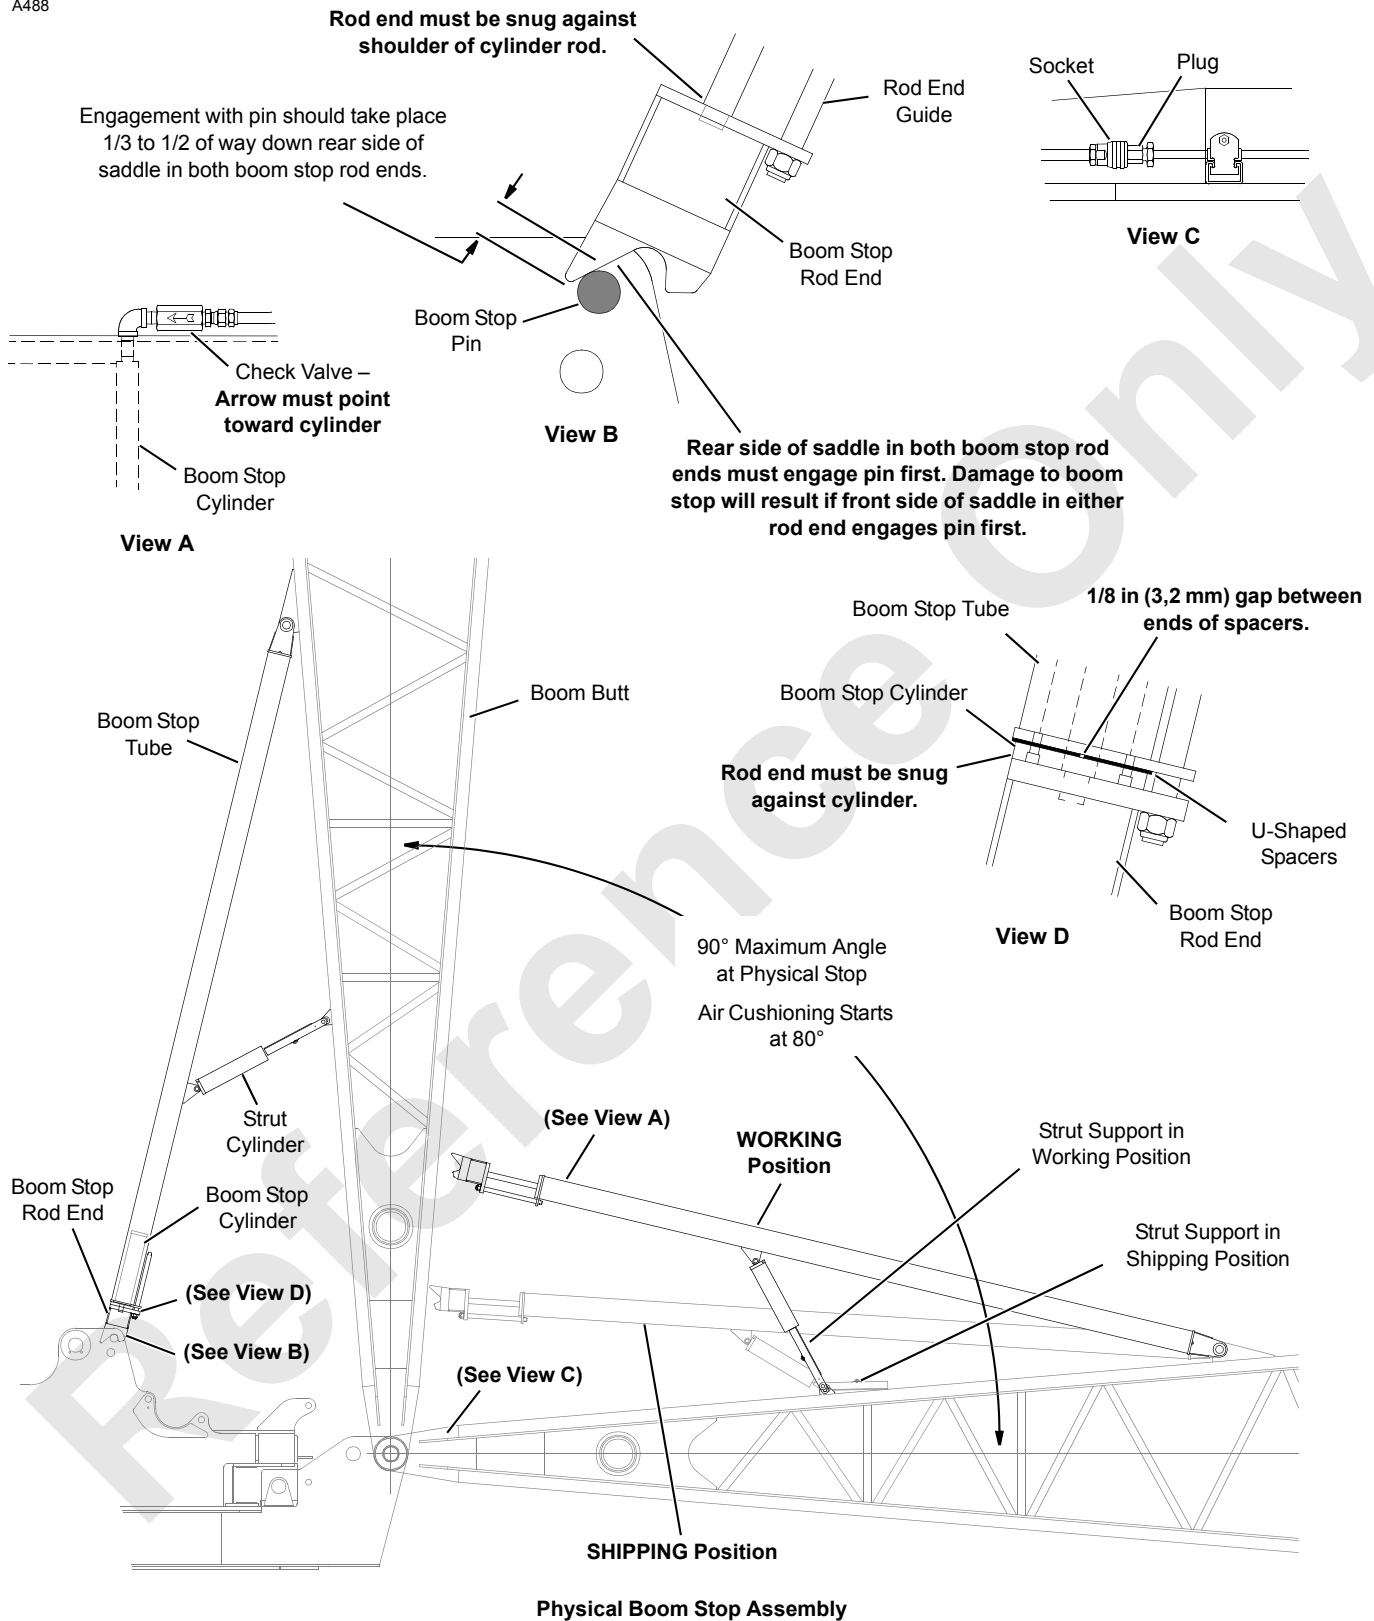

FIGURE 4-5
The physical boom stop assembly (Figure 4-5) serves the following functions:
See Figure 4-5 for the following procedure.
1. Air system pressure of 125 to 137 psi (8,6 to 9,4 bar) is trapped in boom stop cylinders by a check valve connected to each cylinder's inlet port (Figure 4-5, View A).
2. When boom is raised to 80°, boom stop rod ends contact pins in adapter frame (Figure 4-5, View B).
3. Remove quick-release pin from both strut supports and rotate supports to **shipping** position as shown in Figure 4-5.
6. Disconnect socket from plug in air supply line near right side boom hinge pin (Figure 4-5, View C)
1. Connect socket to plug in air supply line near right side boom hinge pin (Figure 4-5, View C).
3. Remove quick-release pin from both strut supports and rotate supports to **working** position as shown in Figure 4-5.
Each boom stop rod end (Figure 4-5, View B) must be threaded all the way onto the cylinder rod so the rod end is snug against the shoulder on the rod. **Be sure to install rod guides**. They keep the rod ends in proper alignment.
Watch the boom stop rod ends while slowly raising the boom butt. Both rod ends must engage the boom stop pins in the rotating bed at the same time and at the approximate point shown in Figure 4-5, View B. Adjust the rod end for each strut cylinder to provide proper engagement.
Watch the boom stop rod ends while slowly raising the boom butt. With the boom butt at 90° both rod ends should be bottomed out against the cylinders to within 1/8 in (3,2 mm) of each other (Figure 4-5, View D).
Install U-shaped spacers between the cylinder flanges and boom stop tubes (Figure 4-5, View D) to limit the maximum angle to 90° and to bottom out the rod ends to within 1/8 in (3,2 mm) of each other.